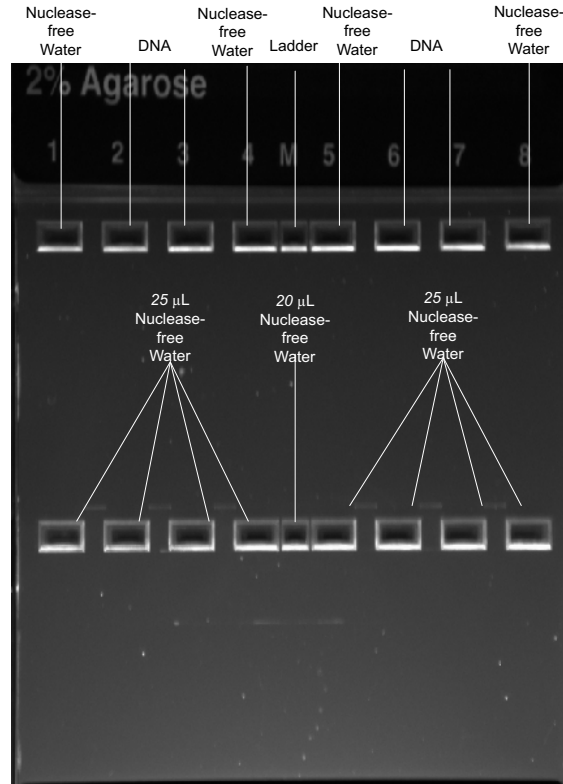

Figure 5 Where to load DNA, ladder, and Nuclease-free Water in a SOLiD™ Library Size Selection gel to size-select the DNA.
- a. Load 20 µL of the ligated, purified DNA into each well of the *top row* of wells. If the sample volume < 20 µL, add Nuclease-free Water to the well for a total volume of 20 µL. Skip the center well (smaller well in the top center of the gel for the ladder); and skip a single well to the right and left of the center top well. Skip the two outermost wells (to avoid edge effects). Do not load more than 1 µg of DNA per lane (see Figure 5 on page 25).
- b. Load 10 µL of 50-bp ladder at 0.1 µg/µL to the center top well. Add 7 µL of water to fill the well (see Figure 5 on page 25).
- d. Fill each of the collection wells in the *middle* of the gel with 25 µL of Nuclease-free Water. Add 20 µL of Nuclease-free Water to the middle center well (see Figure 5 on page 25).